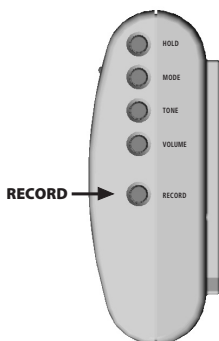

Fig. 9
1. Press and hold the **RECORD** button on the right side of the unit (see Fig. 9).